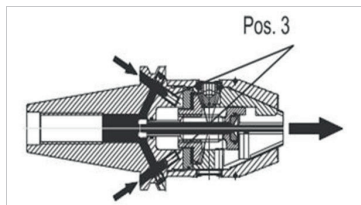

Fig. 13: Threaded pins open coolant supply
1. Turn on bore "B" the two threaded pins clockwise by using the **wrench size 2.5** hex-wrench until the threaded pins fit at item 3 (see Fig. 13: Threaded pins open coolant supply, item 3).